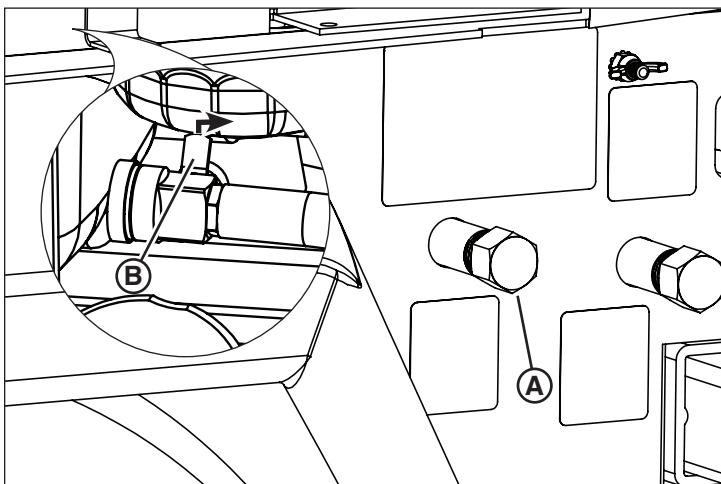

Figure 21
The unit is equipped with a remote engine oil drain (**A**, Figure 21), located on the left side of the light tower trailer toward the rear. To drain the engine oil:
3. Open the oil drain valve, located to the right of the engine oil pan (**B**, Figure 21, inset).